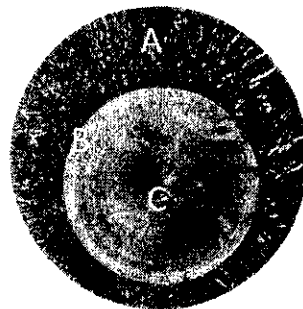

Figure 5
4. Figure 5 shows a rectangular member OB, made from 6-mm-thick plate, pinned to the ground at one end supported by a 12-mm-diameter steel rod with hooks formed on the ends. A load of 400 N is applied as shown. Use Castigliano's theorem to determine the vertical deflection at point B. For steel $E = 207 \text{ Gpa}$. (20%)